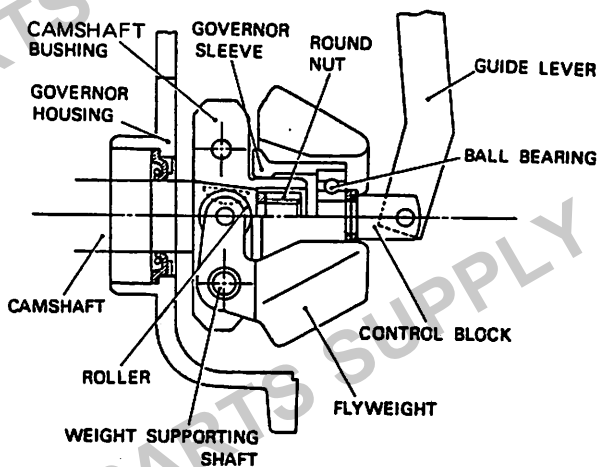

Fig. 4-33 Structure of flyweight assembly
(1) The flyweight assembly is mounted on the pump camshaft as shown in Fig. 4-33. The camshaft bushing, with which two flyweights are connected, is keyed to the pump camshaft by key and round nut. These two flyweights can swing on weight-supporting shaft. When the flyweights swing outward, the roller at the end of the flyweights are pressed against the shoulder of the governor sleeve. The governor sleeve can be moved along the stub of the camshaft bushing and rotates with the camshaft bushing. The ball bearing connects the governor sleeve with the control block. The control block does not rotate but move back and forth along the projected axis of the camshaft and is connected with the guide lever.